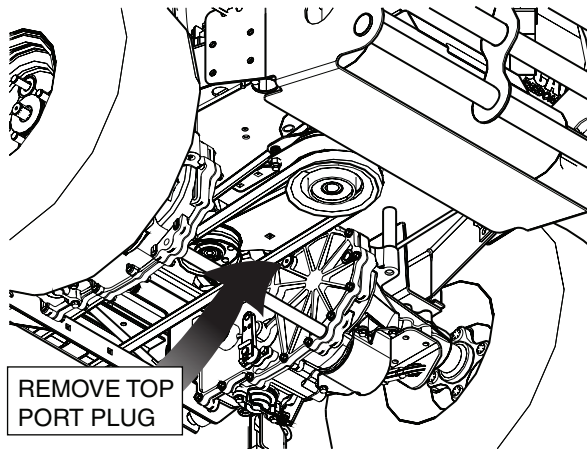

Figure 7-3. Top Port Plug Location
7. Remove the top port plug from both axles before filling with oil. See Figure 7-3.